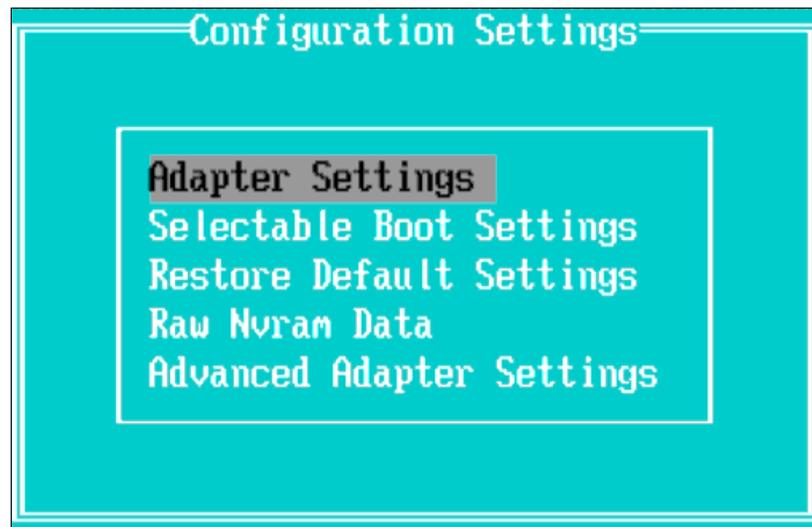

Figure 10-25 Adapter Settings screen
5. Select **Adapter Settings** and press Enter, as shown in Figure 10-25.